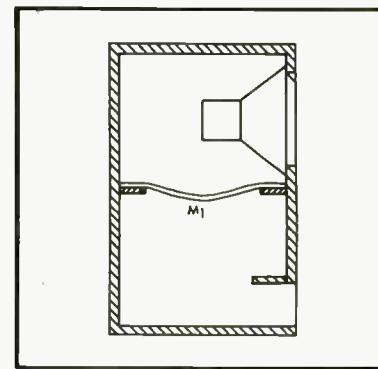

Fig. 17. Cross section of British Broadcasting Corporation enclosure.
**The BBC Enclosure.** An enclosure based on a similar principle was introduced by the BBC in 1935 except that the mass  $M_1$  was formed by a blanket of felt as shown in Fig. 17.